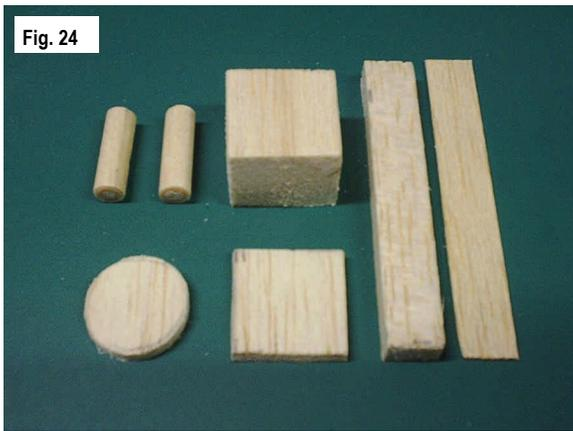

Fig. 24
Note: Locate one of the 3/32" x 5/8" x 5/8" balsa sheets. This will be your headrest cushion. Using the template found on the Parts and Templates page, cut out and trace onto the headrest cushion. Cut the cushion slightly larger than the trace line as shown in Fig. 24 (next page).
24. Locate the ejection seat stabilizers, cushion, headrest, headrest back, seat back and seat extension as shown in Fig. 24.